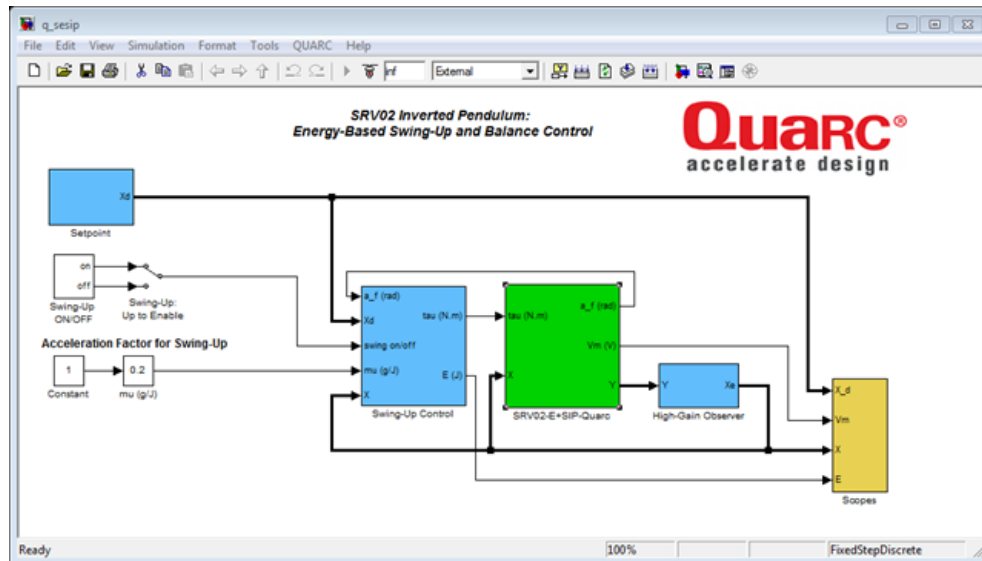

Figure 4. System block diagram, `q_sesip.mdl` file.
6. After the code has been compiled, connect to the test equipment by pressing the connect button as shown in Figure 4.